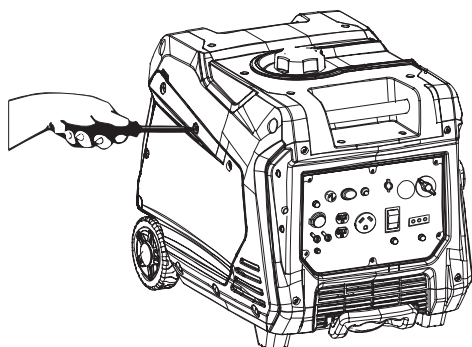

Figure 11: Remove Engine Service Panel
2. Remove the Engine Service Panel to gain access to the air filter (see Figure 11).
1. Remove the Engine Service Panel to access the carburetor (see Figure 11 on page 16).
3. Remove the Engine Service Panel to gain access to the spark plug (see Figure 11 on page 16).